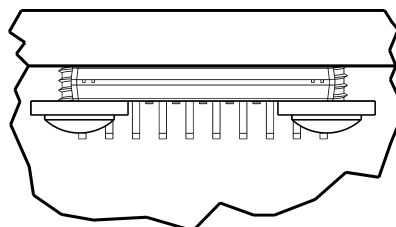
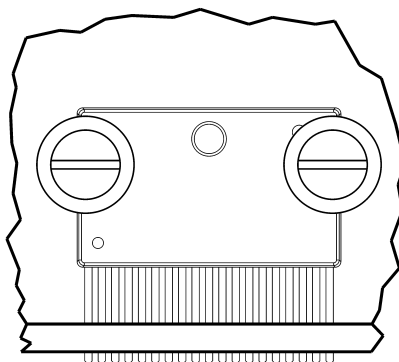

**FIGURE 2. Screw Mounting Into A Tapped Heatsink**
**FIGURE 3. Screw Mounting Through A Heat Sink Using A Nut**
- The recommended use of proper mounting materials is shown in *Figure 2* and *Figure 3*.